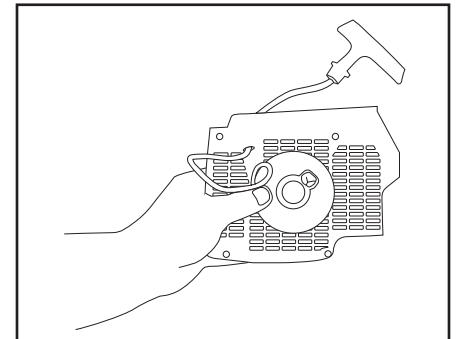

Figure 2
- Pull the cord out approximately 8" and lift the cord up into the notch in the pulley (Figure 2). Relax the recoil spring by placing thumb on pulley and gently allow the pulley to unwind entirely. Undo the screw in the center of the pulley and remove the pulley.